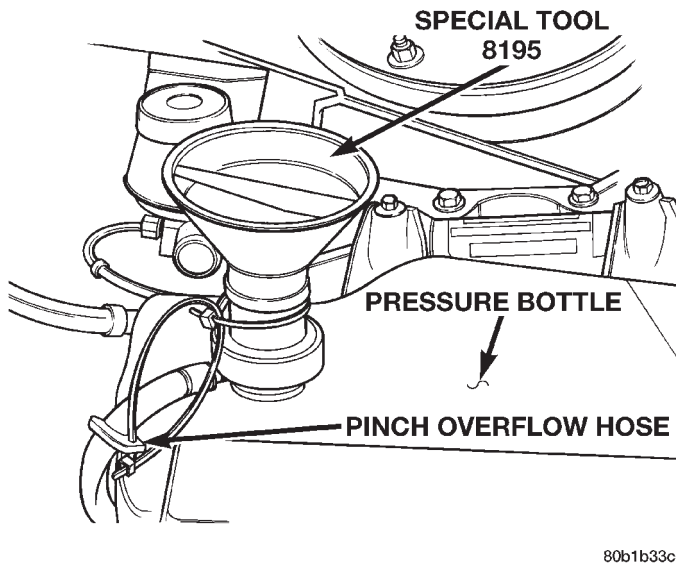

Fig. 14 Special Tool 8195
(4) Attach Special Tool 8195, Filling Aid Funnel to pressure bottle filler neck (Fig. 14).
(5) Use the supplied clip to pinch overflow hose that connects between the two chambers of the coolant bottle (Fig. 14).
(7) Remove clip from overflow hose (Fig. 14).
(8) Allow the coolant in Filling Funnel to drain into overflow chamber of the pressure bottle.